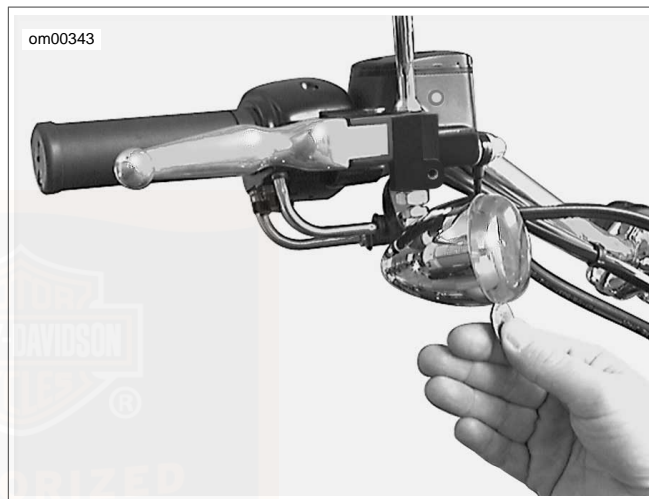

Figure 50. Lens Cap Notch
1. See Figure 50. To access the front or rear turn signal bulbs for replacement, locate a notch on the turn signal lens cap.